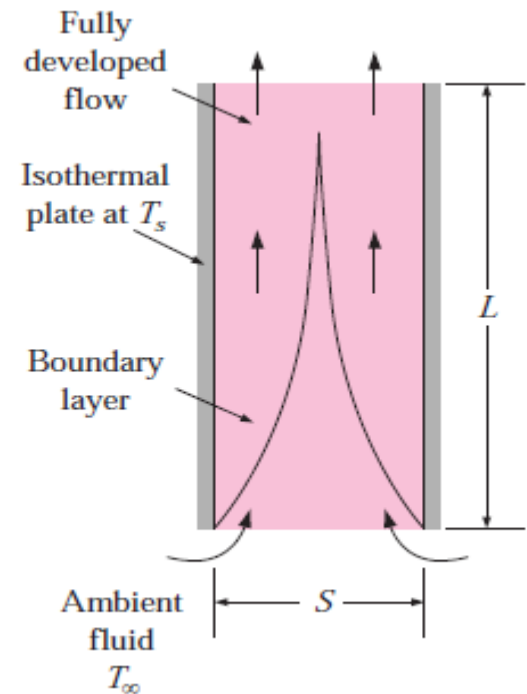

Fig 9: Natural convection flow through a channel between two isothermal vertical plates.
- Natural convection may occur in a channel as shown in Fig 9 for two parallel plates. Typical examples include **fins of a finned heat sink**, or **PCBs (printed circuit boards)** of an electronic device. plate.